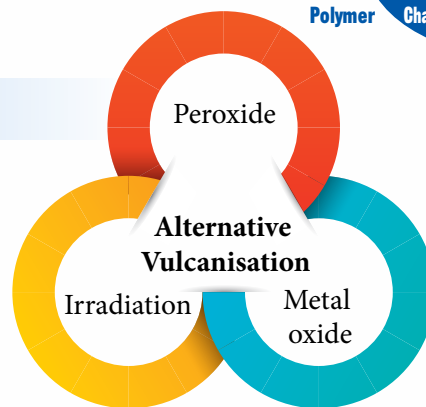

Figure 4.10 Alternative vulcanisation methods
- There are a few alternative vulcanisation methods that can be utilised to produce vulcanised rubber without using sulphur as shown in Figure 4.10.